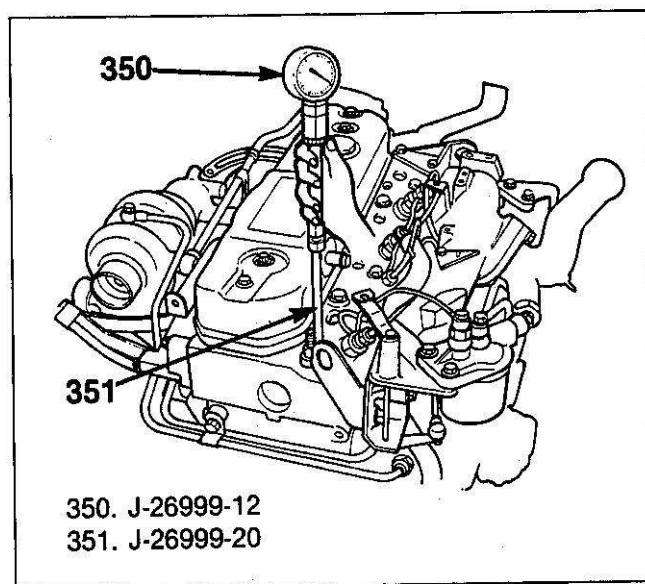

Figure 2. Checking Engine Compression
5. Install Adapter J-26999-20 into a glow plug hole, as shown in figure 2.